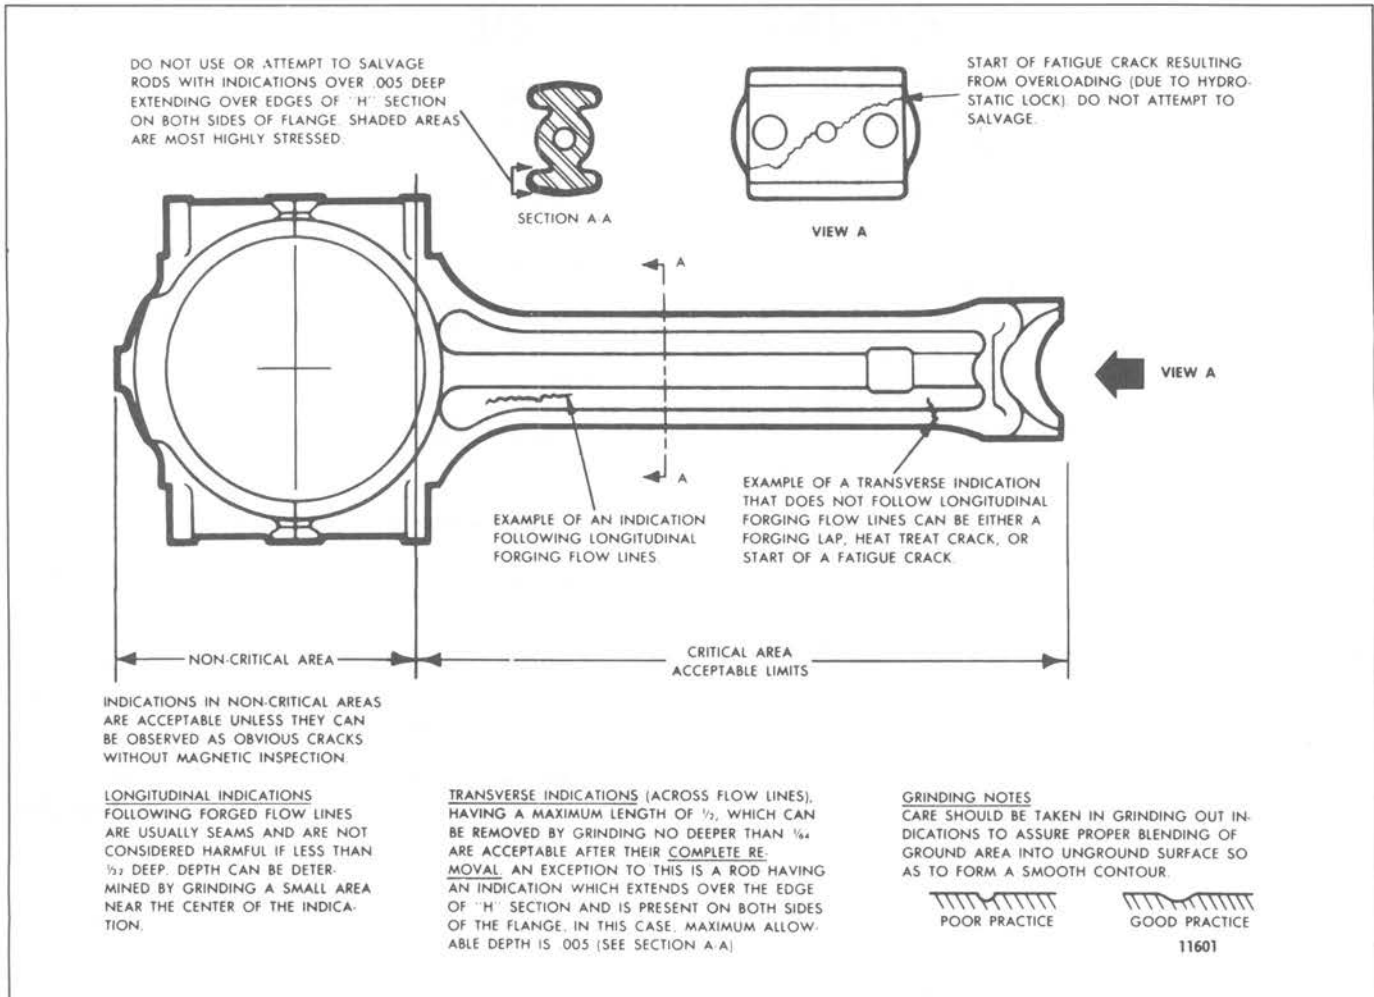

Fig. 2 – Magnetic Particle Inspection Limits for Connecting Rod
1. Check for cracks (Fig. 2) by the magnetic particle method outlined in Section 1.3 under *Crankshaft Inspection*.